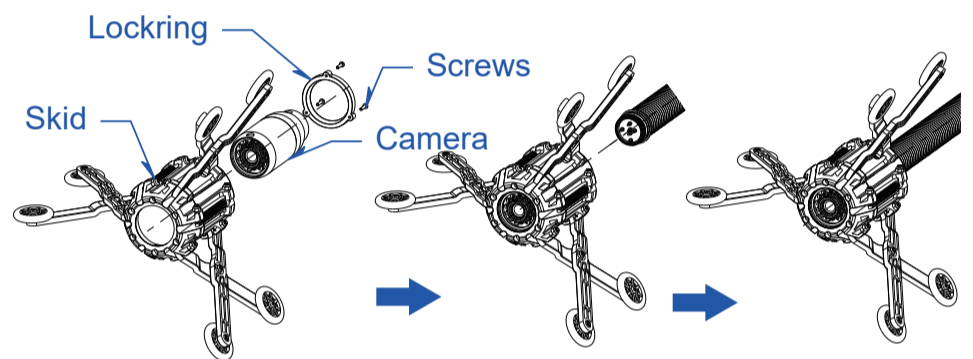

Figure 14. 120 Roller skid
- 2) Install 120 Roller Skid.(See Figure 14)